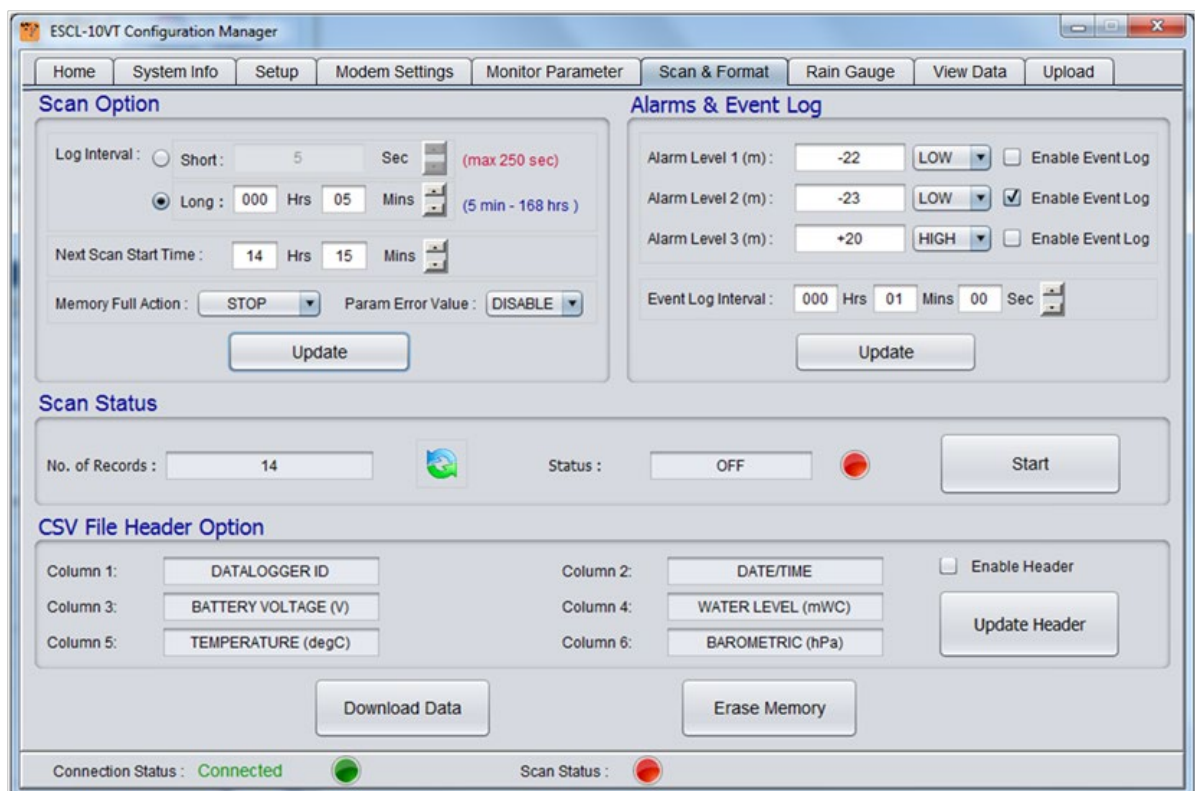

Figure 9-19: EWLR-101 Configuration manager – Scan & Format
- 9.7.7 **'Modem Settings'** tab: In case FTP data upload is required click on 'Modem Settings'. Refer to figure 9-19.